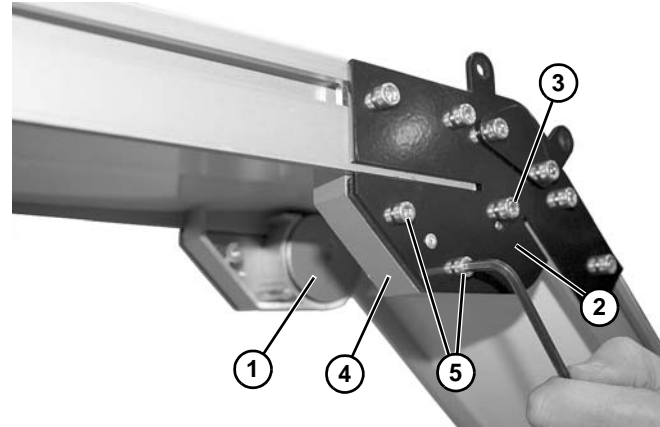

Figure 76
1. If equipped with an upper knuckle, install roller bearing assembly (Figure 76, item 1) into knuckle plate (Figure 76, item 2) with screws (Figure 76, item 3) on both sides of conveyor.
2. Install guard (Figure 76, item 4) on both sides of conveyor with screws (Figure 76, item 5). Tighten screws to 25 in-lb (3 Nm).